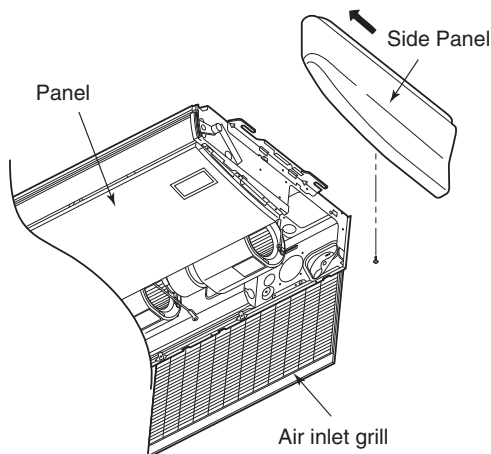

Fig. 8-6
- (1) Open the air inlet grill on the side panel, remove the 1 screw and then move it toward the front (direction of the arrow) and remove it. (Fig. 8-6)